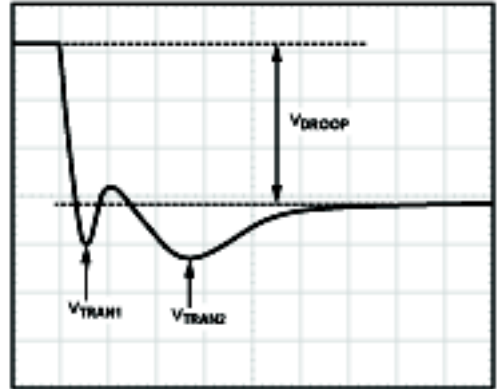

Figure 28. Transient Setting Waveform, Load Step
- With the dynamic load set at its maximum step size, expand the scope time scale to 2 $\mu\text{s}/\text{div}$ to 5 $\mu\text{s}/\text{div}$. This results in a waveform that may have two overshoots and one minor undershoot before achieving the final desired value after V_{DROOP} (see Figure 28).